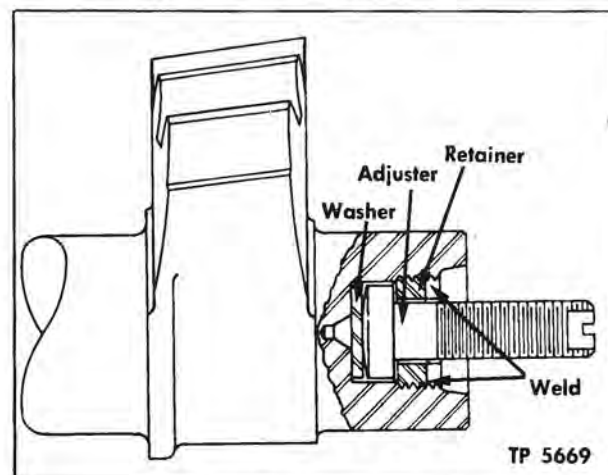

Figure 14—Installation of Lash Adjuster Screw
1. Lash adjuster retainer is tack-welded in end of Pitman shaft (fig. 14). Break tack-weld and withdraw retainer from shaft. Remove adjuster screw and thrust washer.
3. Screw retainer in tight; then back off 30 degrees to obtain correct adjustment. Tack-weld retainer at points shown in figure 14.